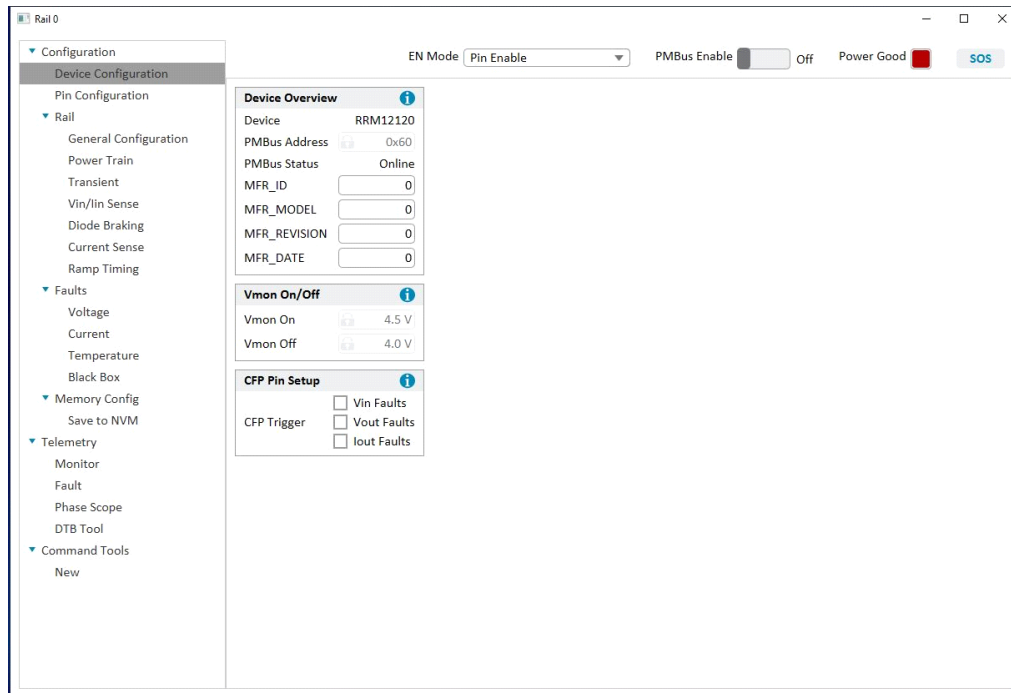

Figure 5. PowerNavigator Configurations Page
10. Double-click on Rail 0 box in the middle panel of the page. A configurations page shown in Figure 5 appears. The items on the left panel can be selected and its associated parameters modified according to your requirements.